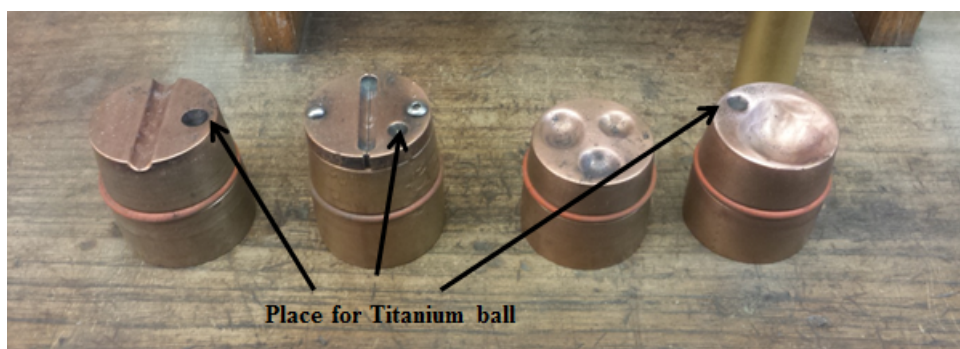

Figure 2: Different types of Copper crucible used in the arc furnace.
Fig. 2 shows the Copper crucibles used to strike the arc and melt the sample in. The two on the left are used for making rods, while the two on the right are used for making “lumps” of you compound.
**Step 3:** Place the elements/ compounds you want to melt into the copper crucible (Fig. 2). The copper crucible on the far right is the one most frequently used. Place a clean titanium ball in the small pit.